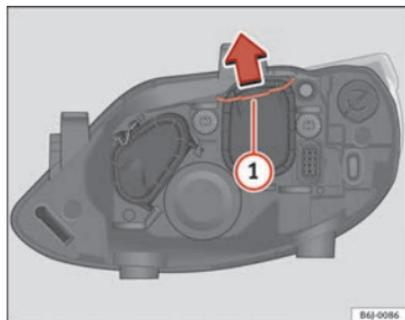

Fig. 153 Dipped beam headlights
- Move the loop ⇒ fig. 153 ① in the direction of the arrow and remove the cover.